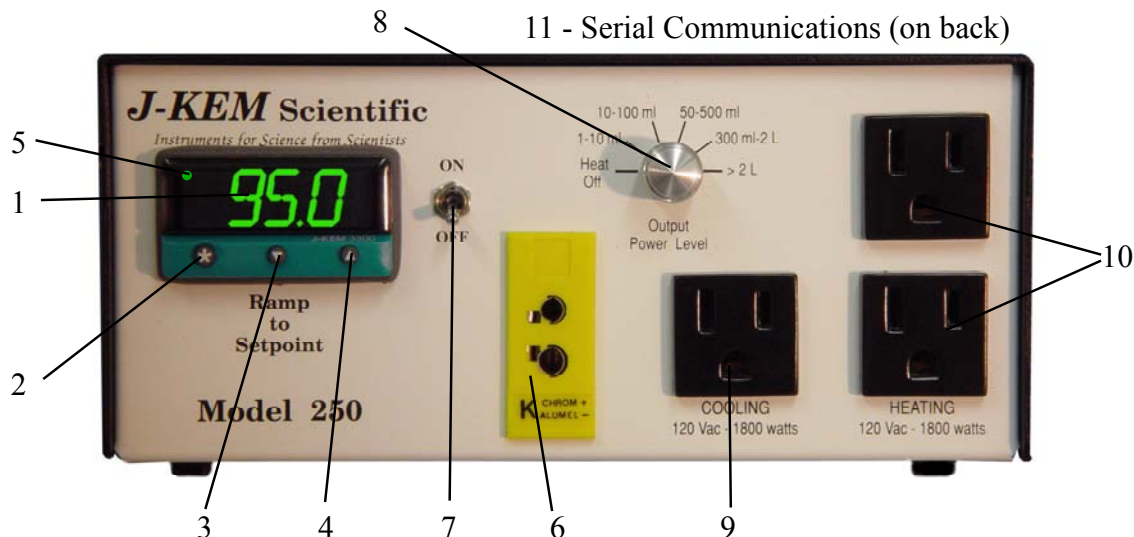

Figure 1
- 3.5 Temperature Sensor Input.** Every controller is fitted with a specific *type* of thermocouple input and can only be used with a thermocouple of the same type. For the correct temperature to be displayed, the thermocouple type must match the receptacle type on the front of the controller (Figure 1; # 6). All thermocouples are color coded to show their type (Blue = type T; Yellow = type K; Black = type J). The color of the thermocouple plug must match the color of the receptacle on the front of the controller. If the thermocouple is broken or becomes unplugged, the error message "inPt" "FAiL" blinks in the temperature meter display and the controller stops heating.